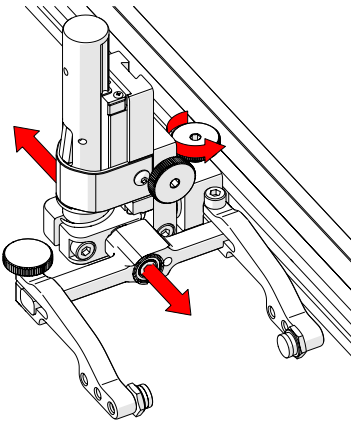

Fig. 112 - Adjust on frame bar
1. The probe holder adjustment knob allows the probe holder to be attached to a frame bar, as well as horizontal positioning on a frame bar (Fig. 112).